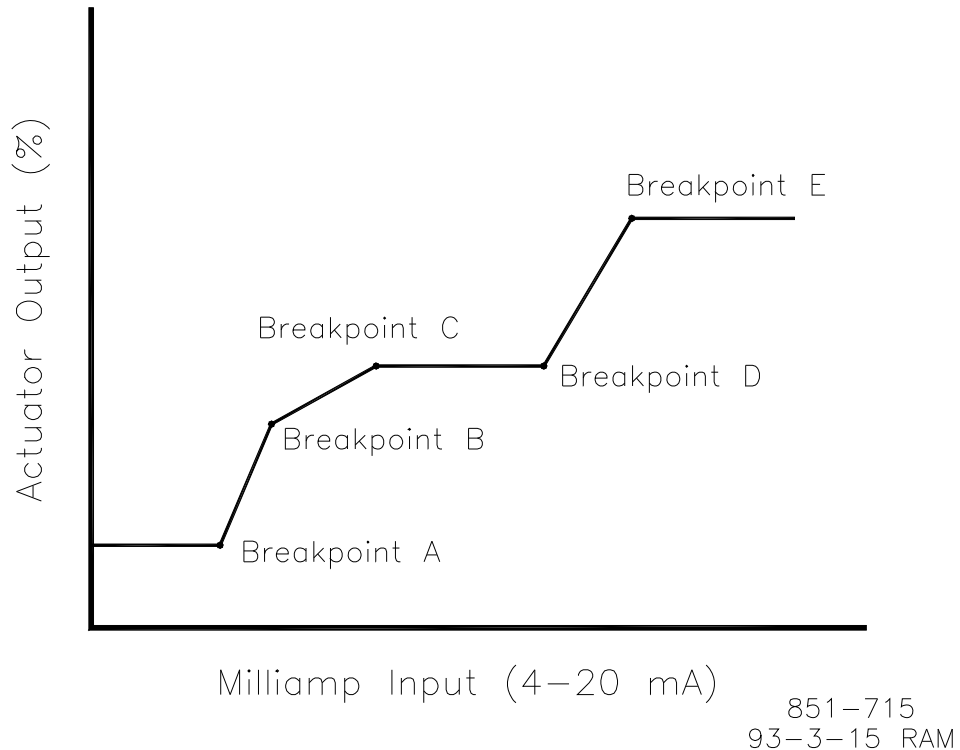

Figure 3-6. Fuel Limit Breakpoints
4. Fuel Limit Breakpoint A is the milliamp input of the Turbo Boost Pressure input where the slope of the fuel limiter output changes (x-axis input in Figure 3-6). Breakpoint A must be set between 2 mA and Breakpoint B.
5. Fuel Limit at Breakpoint A is the percent actuator output current allowed when the Turbo Boost Pressure input is at or below Breakpoint A (y-axis input in Figure 3-6). The fuel limiter interpolates between Breakpoint A and Breakpoint B when the Turbo Boost Pressure input is between these two settings.
6. Fuel Limit Breakpoint B is the milliamp input of the Turbo Boost Pressure input where the slope of the fuel limiter output changes (x-axis input in Figure 3-6). Breakpoint B must be set between Breakpoint A and Breakpoint C.
7. Fuel Limit at Breakpoint B is the percent actuator output current allowed when the Turbo Boost Pressure input is at Breakpoint B (y-axis input in Figure 3-6). The fuel limiter interpolates between Breakpoint B and Breakpoint C when the Turbo Boost Pressure input is between these two settings.
8. Fuel Limit Breakpoint C is the milliamp input of the Turbo Boost Pressure input where the slope of the fuel limiter output changes (x-axis input in Figure 3-6). Breakpoint C must be set between Breakpoint B and Breakpoint D.
9. Fuel Limit at Breakpoint C is the percent actuator output current allowed when the Turbo Boost Pressure input is at Breakpoint C (y-axis input in Figure 3-6). The fuel limiter interpolates between Breakpoint C and Breakpoint D when the Turbo Boost Pressure input is between these two settings.
10. Fuel Limit Breakpoint D is the milliamp input of the Turbo Boost Pressure input where the slope of the fuel limiter output changes (x-axis input in Figure 3-6). Breakpoint D must be set between Breakpoint C and Breakpoint E.
11. Fuel Limit at Breakpoint D is the percent actuator output current allowed when the Turbo Boost Pressure input is at Breakpoint D (y-axis input in Figure 3-6). The fuel limiter interpolates between Breakpoint D and Breakpoint E when the Turbo Boost Pressure input is between these two settings.
12. Fuel Limit Breakpoint E is the milliamp input of the Turbo Boost Pressure input where the slope of the fuel limiter output changes (x-axis input in Figure 3-6). Breakpoint E must be set between Breakpoint D and 20 mA.
13. Fuel Limit at Breakpoint E is the percent actuator output current allowed when the Turbo Boost Pressure input is at or above Breakpoint E (y-axis input in Figure 3-6).
Figure 3-6 illustrates these breakpoints and adjustments.